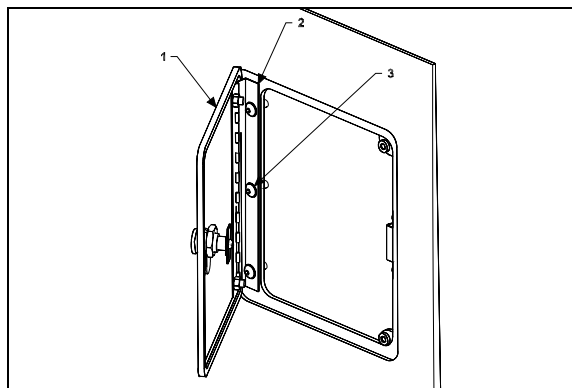

FIGURE 70: FUEL FILLER DOOR
1. Open the fuel filler door (1, Fig. 70).
2. Loosen the screws (3, Fig. 70) holding the panel to hinge (2, Fig. 70) assembly.